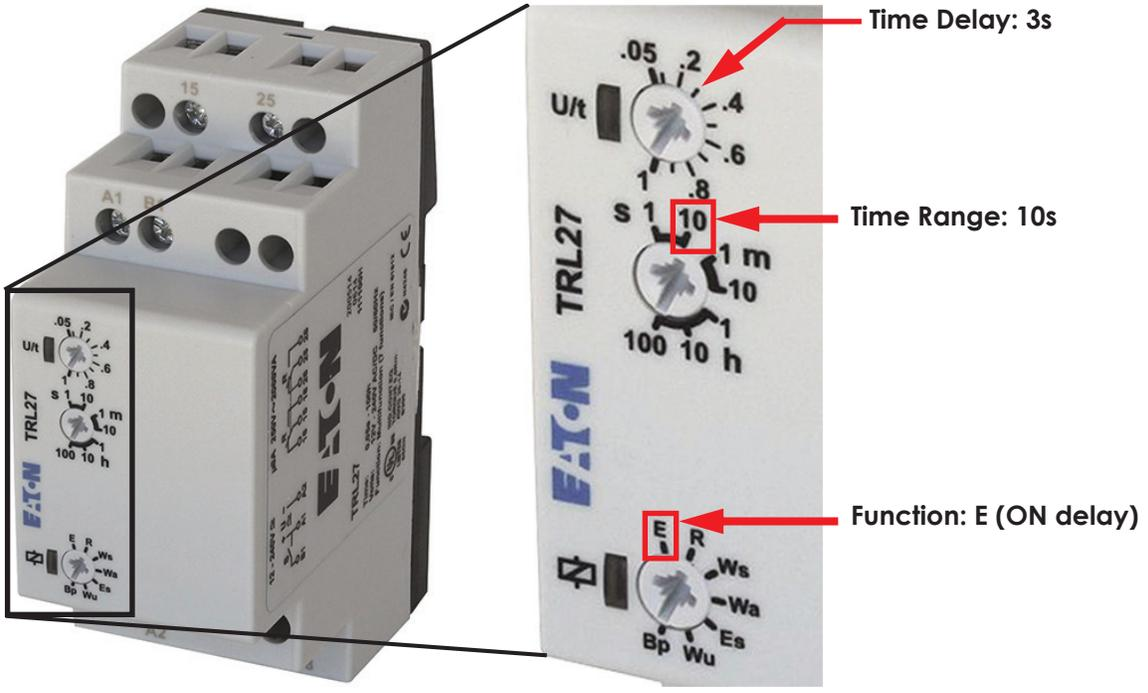

Figure 12: TRL27 Settings
- f. Set function dial to 'E' (On Delay). See Figure 12 on page 12.